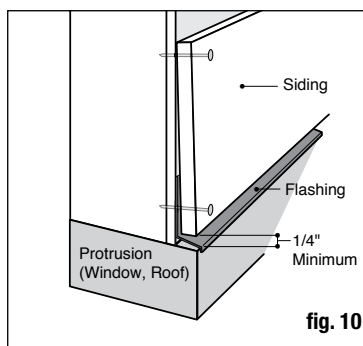

fig. 10
- 1/4" between siding and top of protrusion flashing to allow for proper drainage (fig. 10).